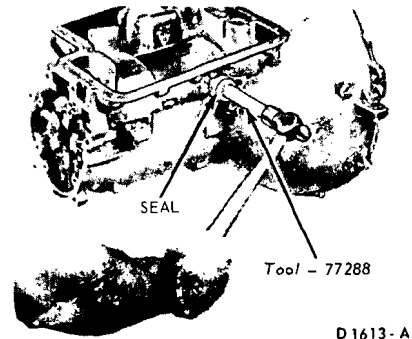

FIG. 40—Installing Manual Lever Seal
7. Dip the new seal in transmission fluid and install it in the case as shown in Fig. 40.